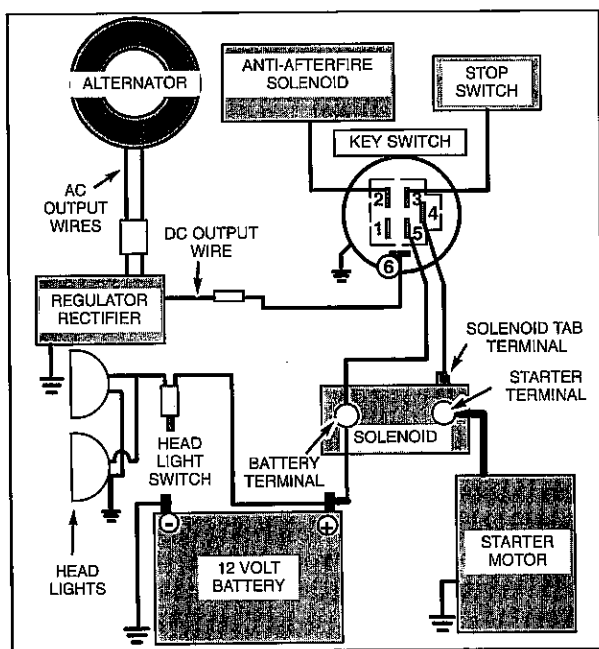

Fig. 42
1. Before installing battery, connect all equipment to be operated. See typical wiring diagram, **Fig. 42**.